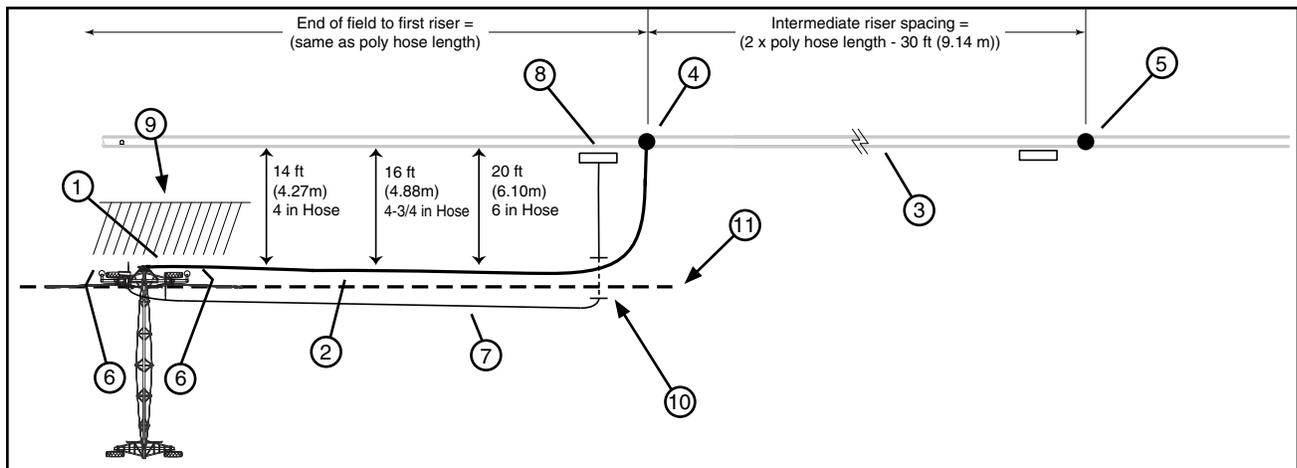

Figure 45-1 Side Inlet Hose Layout
When using the swivel inlet, position the hose and cord as shown. See Figure 45-1.
- With the linear cart at the edge of the field, position the entire length of the first hose, depending on hose diameter. Place the hose in line with or slightly outside of the swivel elbow. After the first pass the hose will be positioned properly and does not need to be moved again. See Figures 45-1.